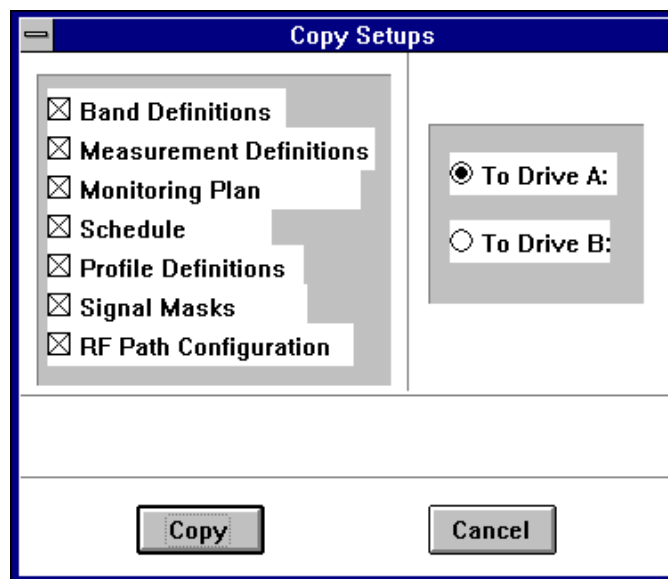

Figure 10-2: The Copy Setups Dialog Box
1. Click **Setup** on the HP E4900 File Utilities Window Menu Bar and then select **Copy to Floppy** from the dropdown menu to open the **Copy Setups** Dialog Box (Figure 10-2).